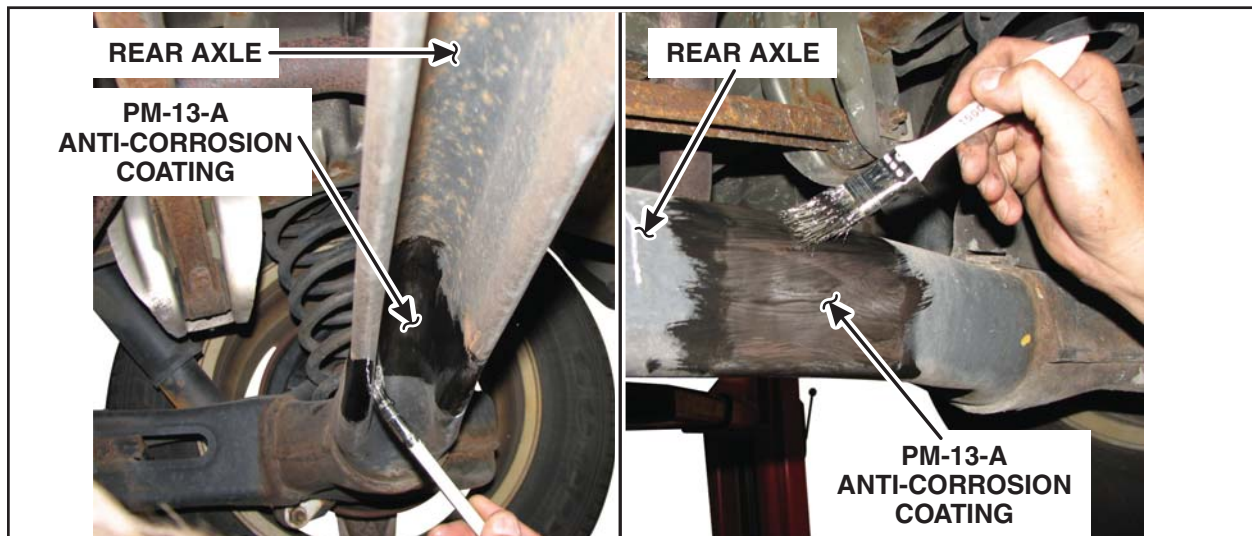

FIGURE 4
- a. If the rear axle is not cracked, apply PM-13-A Anti-Corrosion Coating to the inspection areas. See Figure 4. Proceed to step 6.